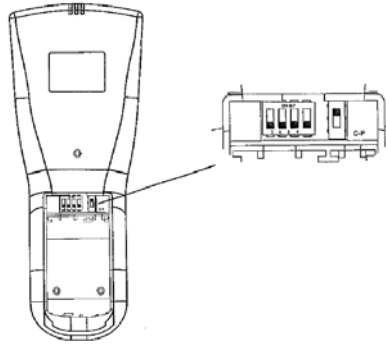

Figure 7
- 2) Slide the CHILD PROOF switch to the "CP" position to activate the Child Proof function as shown in Figure 7. "Child Proof" will appear on the LCD screen below the room temperature.
There are code switches in the back of the Handheld Remote that may be changed if Receiver is accidentally turned on by another transmitter. The factory setting is all in the Off position. You may slide the code switched to your choice of On or Off positions. See Figure 7.